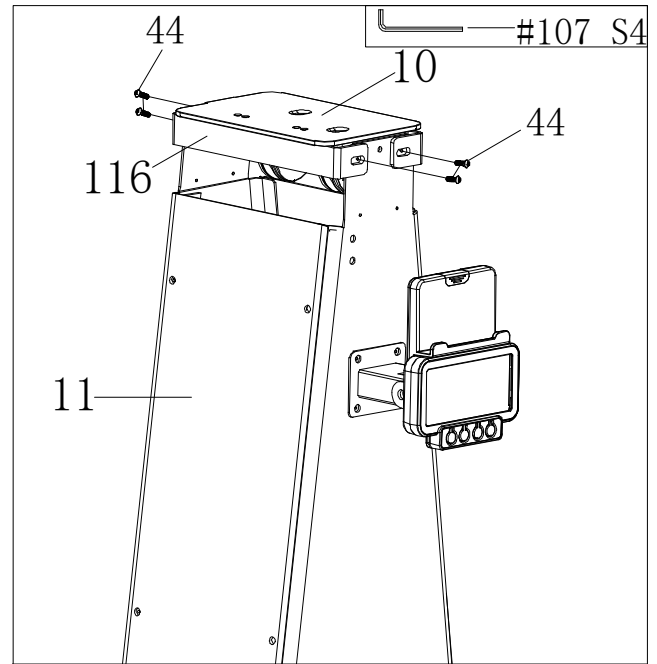
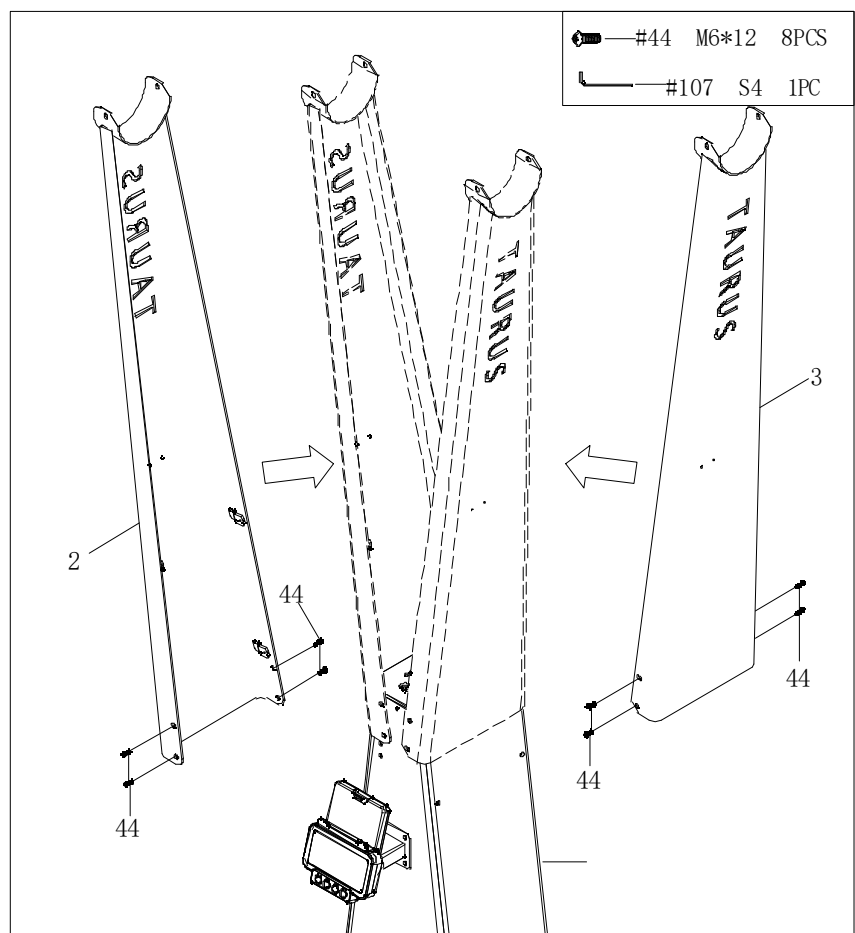

Fig. 2
Fig. 3
1. Position the main frame (11) in a vertical position.
2. Remove the four bolts (44) and two fixed seat guard plates (116) from the fixed seat (10) (Fig. 2).
3. Press the fixed seat (10) onto the main frame (11).
4. Fix the fixed seat (10) to the main frame (11) with four bolts (44).
5. Fix the left vertical plate (2) to the main frame (11) with four bolts (44) (Fig. 3).
6. Fix the right vertical plate (3) to the main frame (11) with four bolts (Fig. 3).